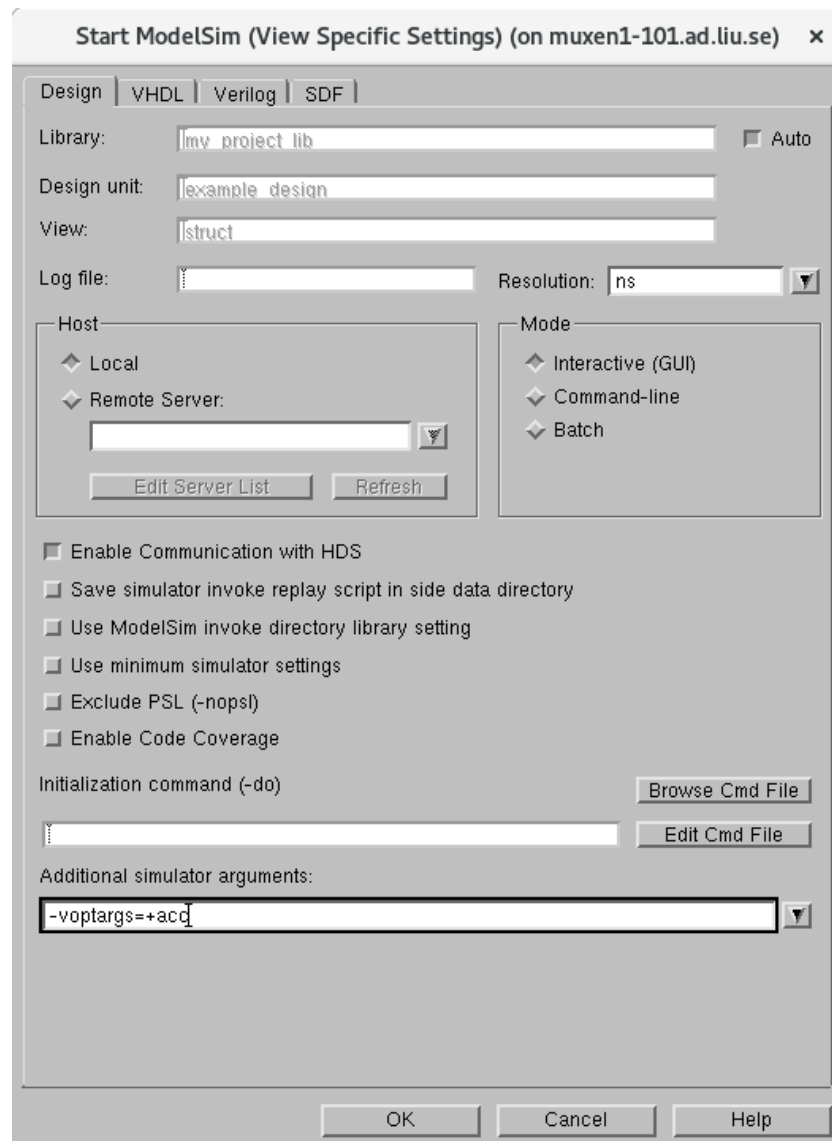

Figure 19: Modelsim simulator dialog box
8. The dialog box to start modelsim simulator appear. Enter in the "Additional simulator argument" textbox the argument "-voptargs=+acc" as shown in Figure 19. Then press Ok and wait until the simulator has started.